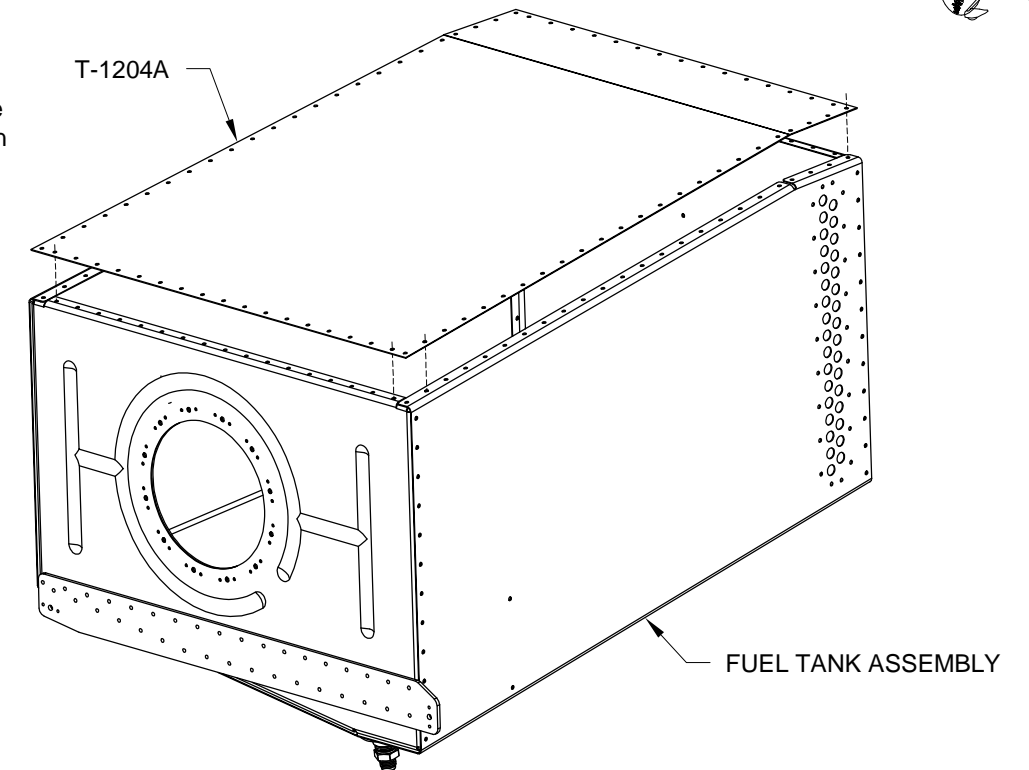

FIGURE 2: CLECO THE TOP TANK SKIN
Step 9: Place a blanket or large rag over the inside bottom of the fuel tank to collect drill chips from following steps. Cleco the T-1204A Top Tank Skin to the Fuel Tank Assembly as shown in Figure 2.